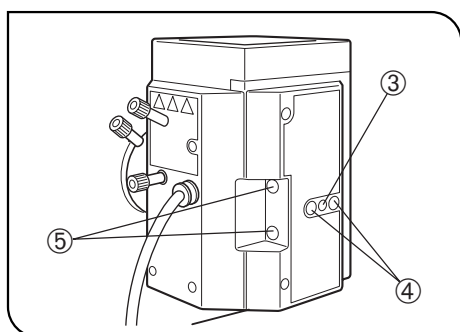

Fig. 59
7. Fit the tip of the Allen screwdriver into the mirror focus adjustment screw ③ (Fig. 59) on the rear of the lamp housing, and rotate the screw to focus on the mirror arc image. (Fig. C)
8. Rotate the lamp centering knob ② so that the arc image and mirror arc image are overlapped. (Fig. D)